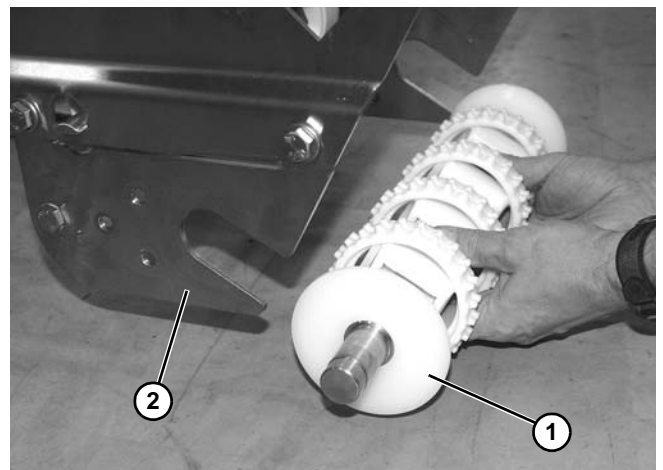

Figure 75
15. Remove drive spindle assembly (**Figure 75, item 1**) from side plates (**Figure 75, item 2**).